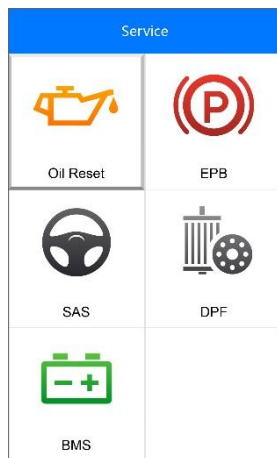

Figure 5-1 Sample Service Functions Screen
Select **Oil Reset** icon on the Service screen (*Figure 5-1*) and wait for the vehicle manufacturer screen. Choose the correct vehicle make.
1. Select **EPB** icon on the Service screen (*Figure 5-1*), choose **BMW** from the vehicle make screen and select the correct vehicle model to enter the **Parking Brake** menu.